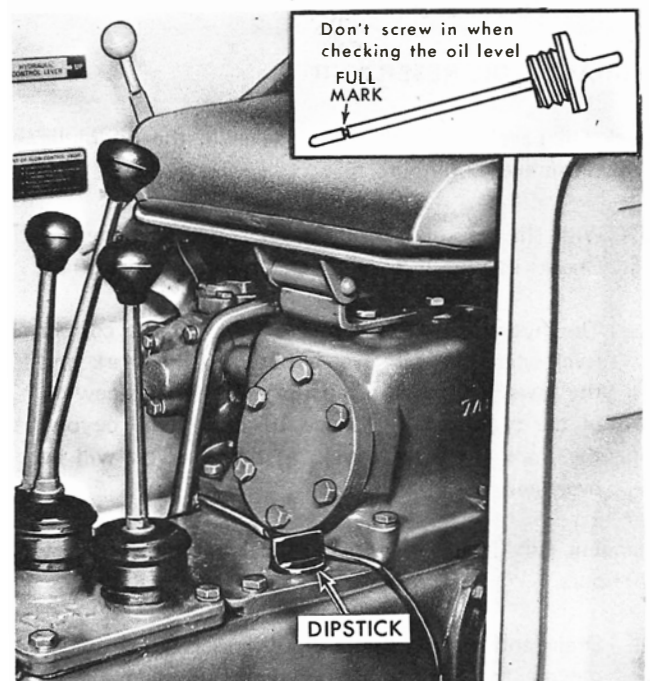

Figure 29
1. With the tractor standing level and the engine off, check the oil level with the dipstick, Figure 29.
2. Remove the dipstick, Figure 29 and fill and transmission with new oil of the type specified, page 19.